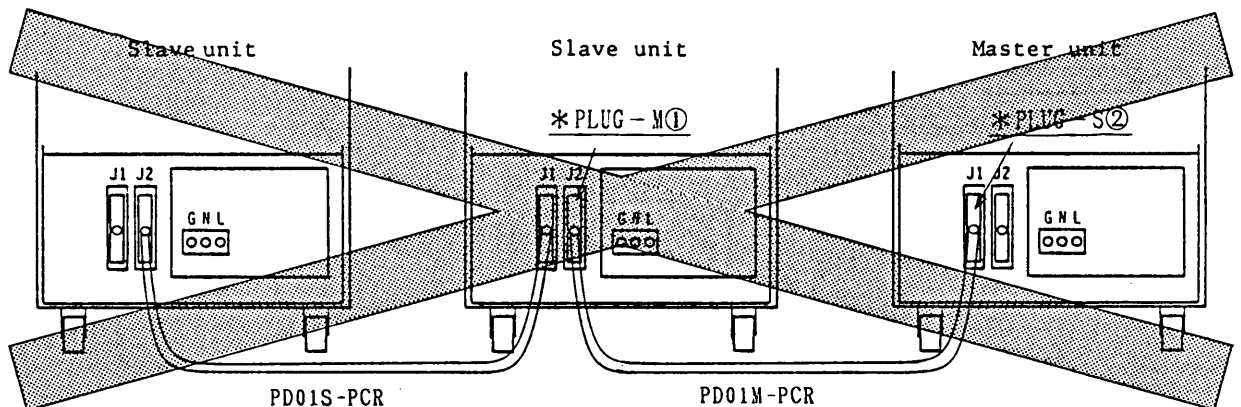

Figure 3-11
Example 2. For the parallel operation of three or more Frequency Converters, PLUG-M① and PLUG-S② of the PD01M-PCR Cable are connected to improper units (Figure 3-11).